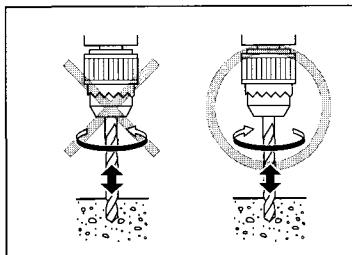

Fig. 1
6. **ALWAYS** set the bit rotation switch lever to the R-side when boring concrete or similar hard materials in IMPACT mode. (Fig. 1)